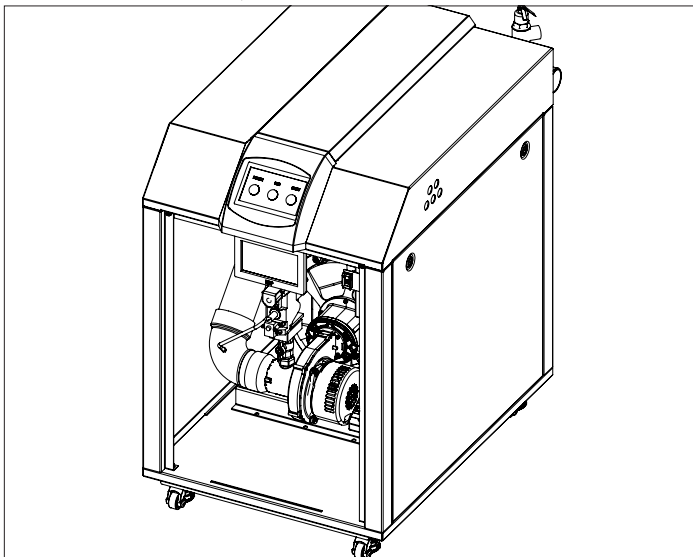

Figure 21 - Installed Assemblies
16. Install the Indicator Panel Assembly onto the boiler cabinet. See Figure 21.